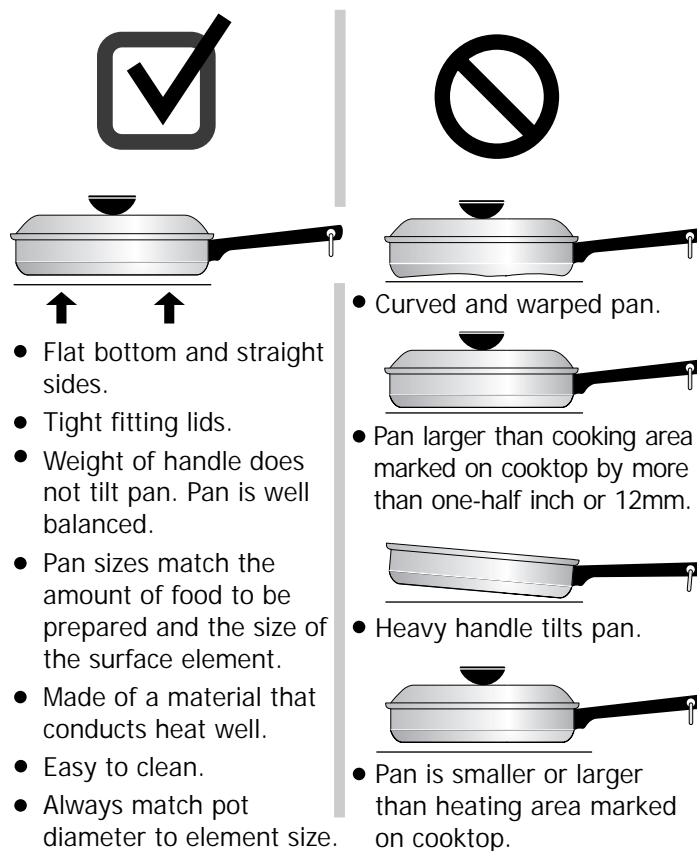
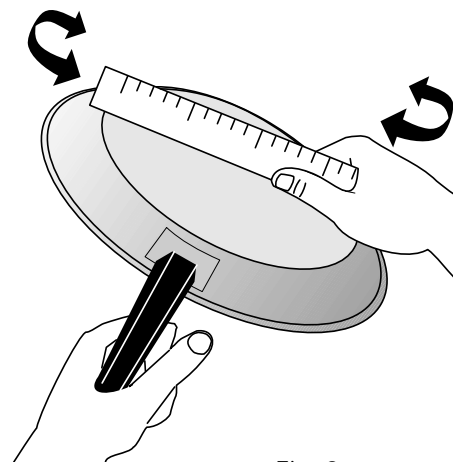

Fig. 2
Fig. 3
Position models with hidden bake element (Fig. 3*)
4. Assemble one connector arm at a time. With the oven door open and the oven rack in place, install one end of the connector arm to the hole in the **door connector bracket** (Fig. 1) and the other end in the hole in the **rack connector bracket** (Fig. 2 and as in Fig. 3). The oven rack may need to be adjusted in or out in the rack position to match the length of the connector arm.
The size and type of cookware used will influence the setting needed for best cooking results. Be sure to follow the recommendations for using proper cookware as illustrated in Figs. 2 & 3.
Cookware should have flat bottoms that make good contact with the entire surface heating element (See Fig. 2). Check for flatness by rotating a ruler across the bottom of the cookware (See Fig. 3).
Suggested settings for single and dual radiant elements table (use with Fig. 3)